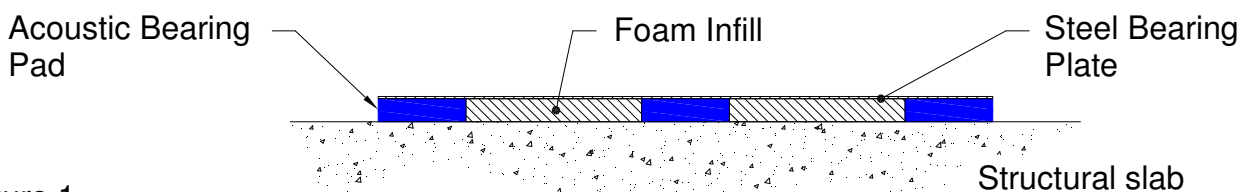

Figure 1
- 2) Individual rubber bearing pads should be covered with a steel bearing plate to spread the load (See Figure 1).
- 3) We recommend that large gaps between pads are filled with suitably sized closed cell polyethylene foam or polystyrene. A polythene strip should be laid over the pads as per figure 1 to prevent ingress of mortar and debris during construction.